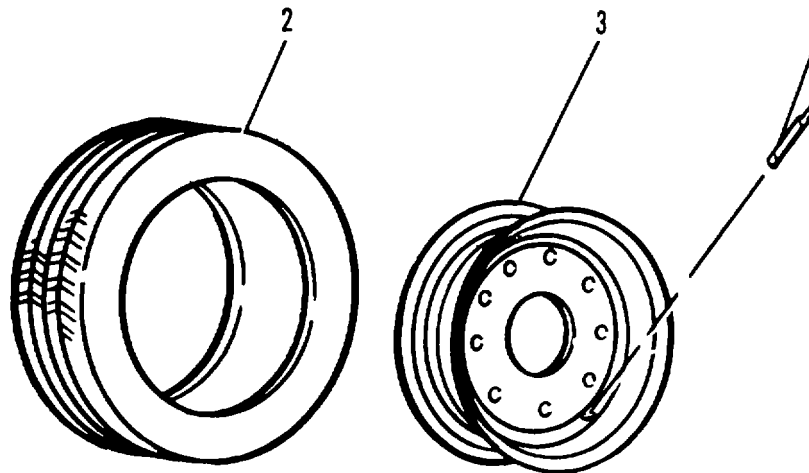

Figure 4-24. Tire and Wheel Assembly.
- (1) Remove valve core from valve stem (1, Figure 4-24) with valve core tool.
- (2) Remove tire (2) from rim (3) using tire tools.
- (3) Remove valve stem (1) from rim (3) and discard.